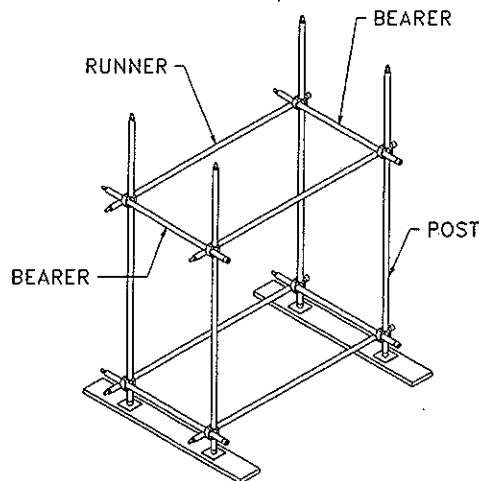

FIGURE 3
3. Insert the final post into its base and secure. Follow the previous sequence and attach the next two (2) runners and bearers completing the first initial tower. Before continuing, be sure all vertical posts are plumb and horizontal members are level. Measure across the diagonal and adjust clamps to maintain a square tower. After the tower is plumb, check all clamp nuts to assure they are tight. (Torque to not less than 50 ft/lbs) See Figure 3